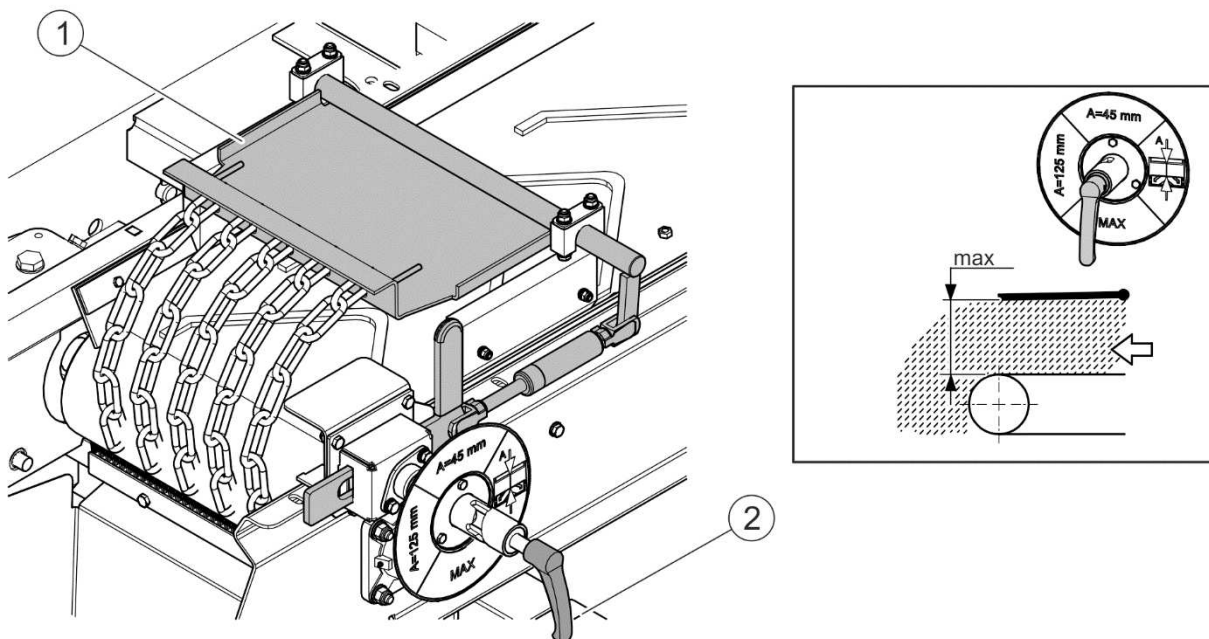

FIGURE 4.31 Setting the belt conveyor barrier for unloading
- set the belt conveyor barrier to maximally open position (FIGURE 4.31),
(1) - spreading mechanism; (2) - clamp bolt; (3) - grip
To set the barrier (1) for unloading (FIGURE 4.31) turn and pull the pin (2). The barrier is set to maximally open position (FIGURE 4.31) only when material is being unloaded from the tank.